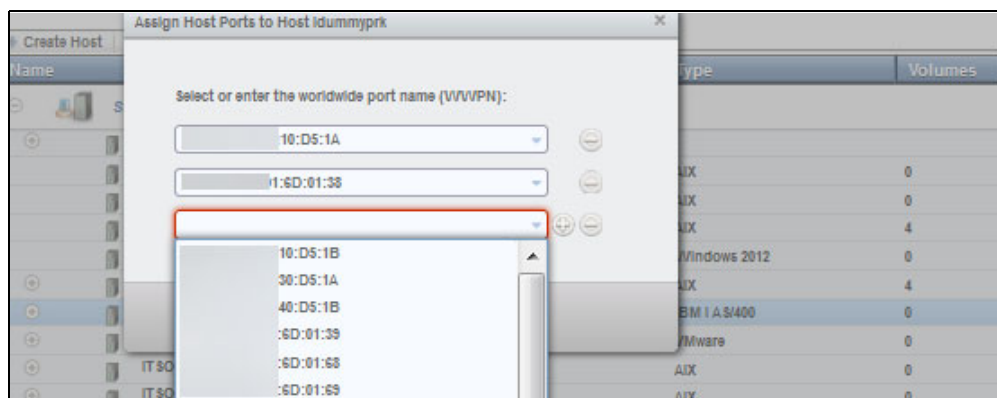

Figure 11-77 Assign host ports to a host
- This action opens the Assign Host Ports to Host window. Refer to Figure 11-77.
Select from one of the WWPNS that are shown in the drop-down list, or manually enter the WWPNS of the HBA of the host that you are adding. You can select multiple WWPNS by clicking + as shown in Figure 11-77. Click **Assign** to complete.